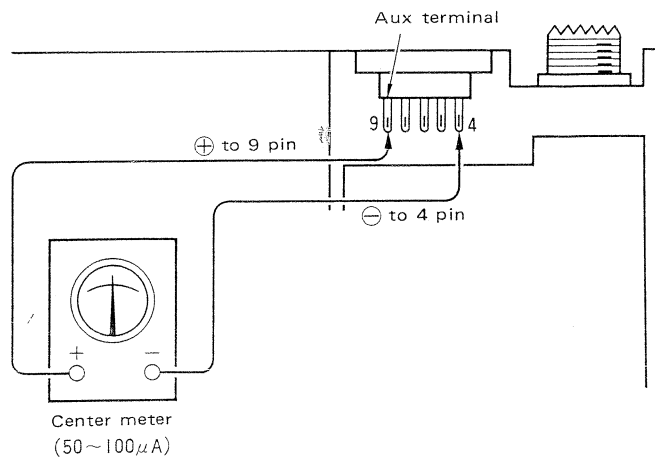

Fig. 11 Center Meter Zero
1. Connect a frequency counter to the power meter cable by winding as Fig. 11. Adjust TC20, 25, 29 for the following counter reading at each channel.